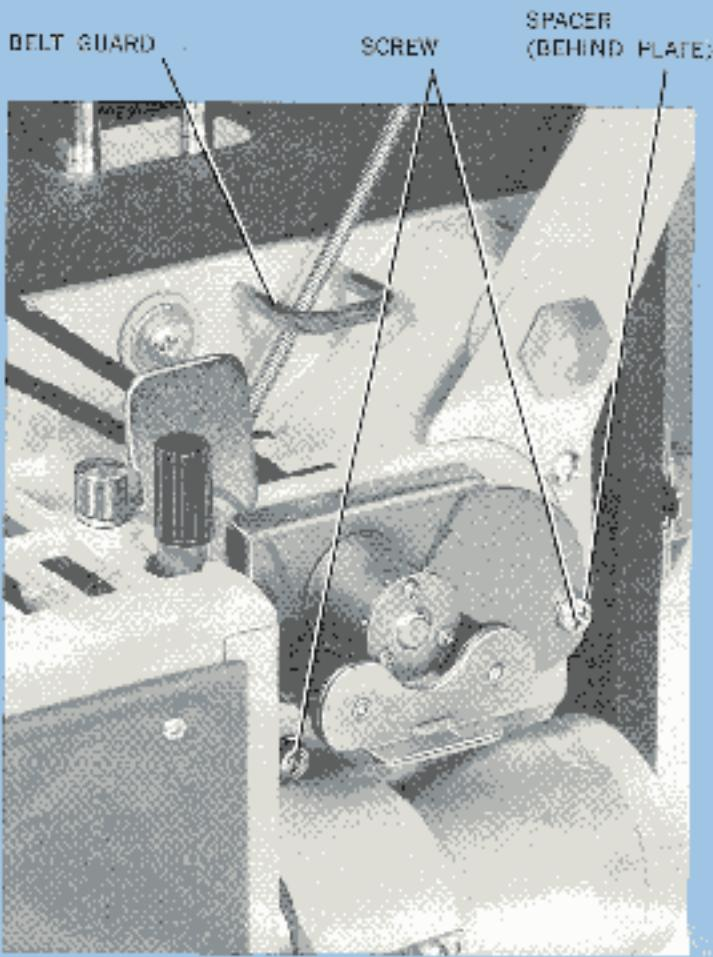

FIGURE 16
**Rewind Belt**—Disconnect the two ends of the worn belt; connect one of these ends to an end of the new belt and pull the new belt through. If the old belt is not in position, feed the new belt into the opening in front of the supply reel arm. Guide the belt between the flanges of the pulley until the end protrudes from the opening in the top of the housing. If the end of the belt hits the housing, use a bent paper clip to guide it. The belt must go through the belt guard (Figure 16).